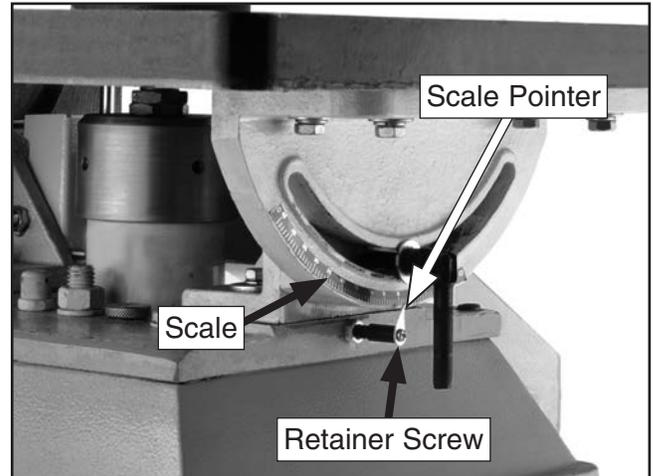

Figure 13. Pointer adjustment.
- Loosen the retainer screw (see **Figure 13**) that secures the scale pointer and adjust the scale pointer to read 0° . Re-tighten the retainer screw.